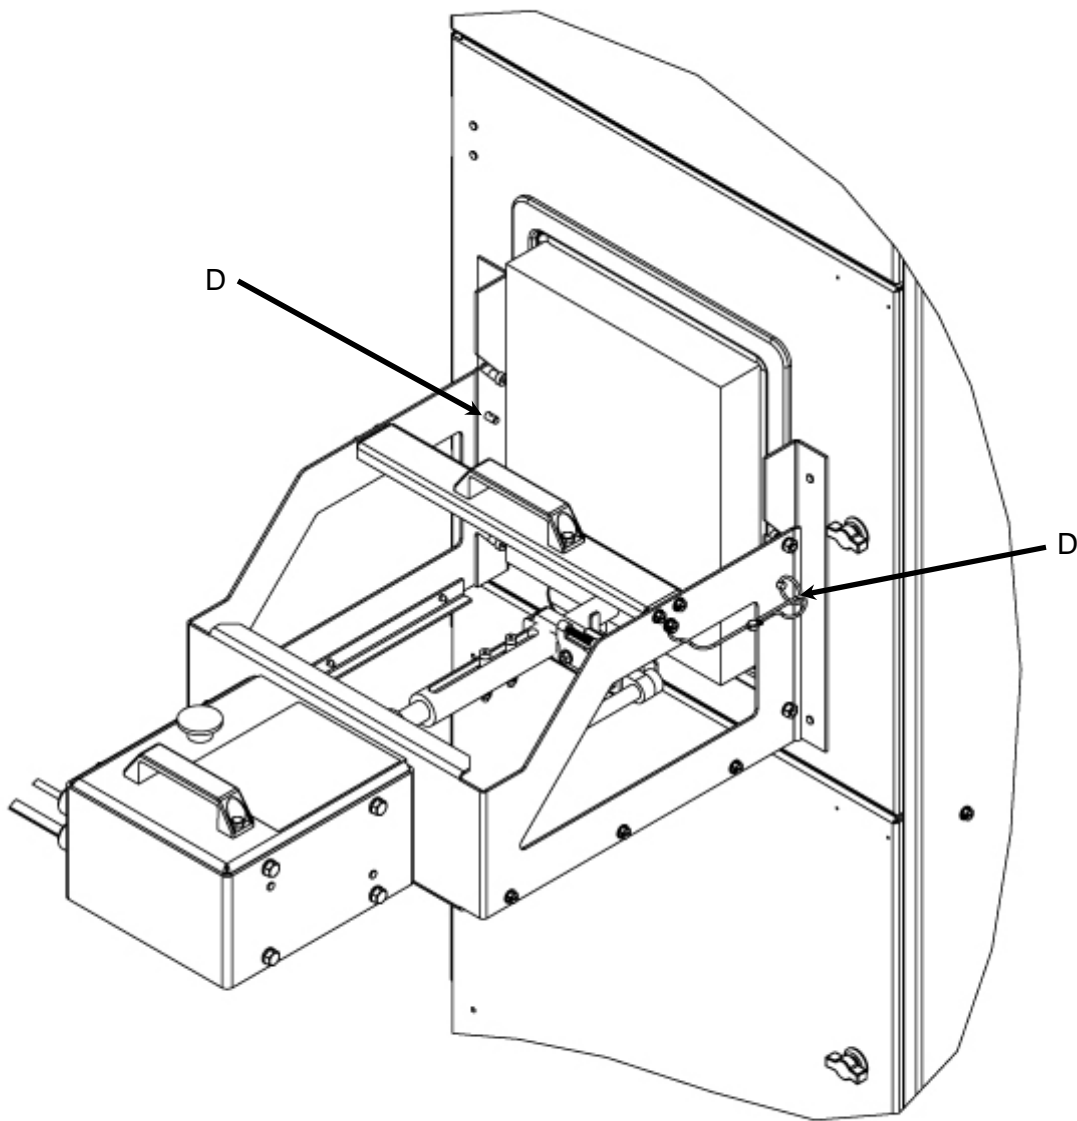

Fig. 2.4
5. Insert the two Keeper Pins into the Frame Retaining Holes on each side of the frame and through the door brackets. See Fig.2.4, item D.